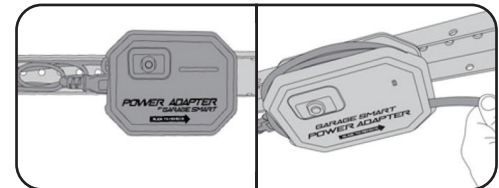

fig 4.5
9. You can also organize cables by winding the excess cable around the power adapter housing or placing the cable in the Smart Track. (fig 4.5)